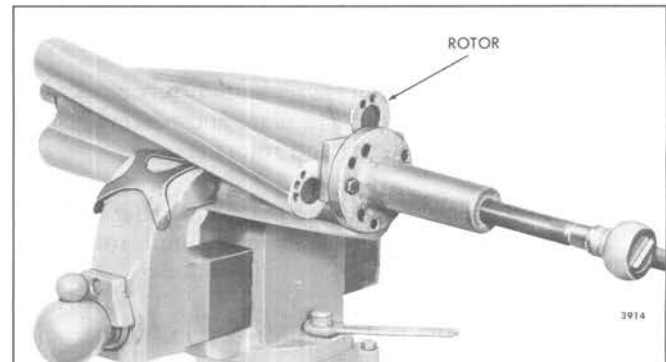

Fig. 11 - Removing Oil Seal Ring Carrier from Blower Rotor Shaft (Turbocharged Engine Blowers) using Tools J 6270-2 and J 6270-31
- c. Refer to Fig. 11 and place the seal ring carrier remover adaptor J 6270-2 over the carrier. Make sure the adaptor is seated in the groove of the carrier.
- f. Turn the puller screw clockwise and pull the oil seal ring carrier and roller bearing inner race (front end of blower rotors only) from the rotor shaft (Fig. 11).